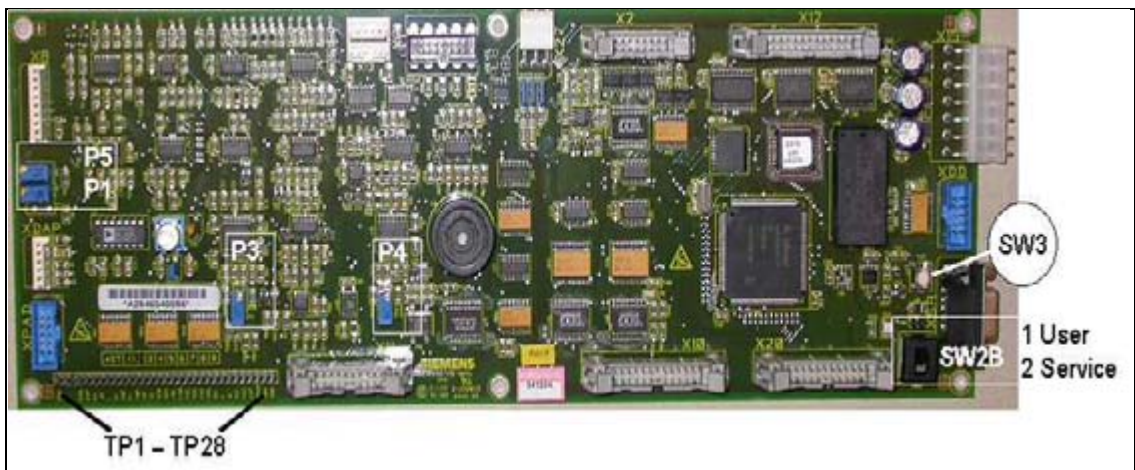

Fig. 16: CPU D916
- Move service switch SW2B into position 2 (service) board D916 (CPU) (Fig. 16 / p. 49).